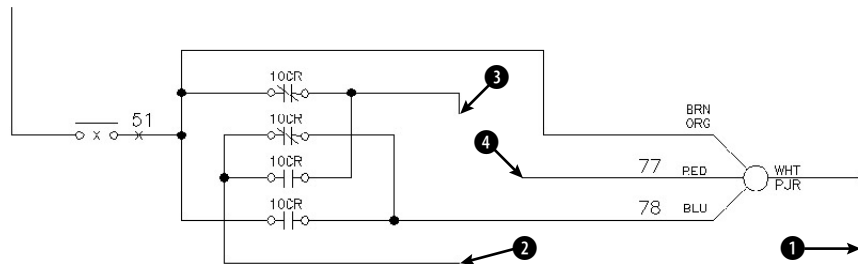

Figure 10-20: An electrical schematic.
2. Save the file as ab10-06.dwg in your AutoCAD Bible folder. It looks like Figure 10-20.
3.  Choose **Extend** on the Modify toolbar. At the Select objects or <select all>: prompt, pick the line at **1** in Figure 10-20 and then press Enter.
4. At the Select object to extend or shift-select to trim or [Fence/Crossing/Project/Edge/Undo]: prompt, pick the line at **2** in Figure 10-20. Press Enter to finish selecting objects. The command extends the line.
5. Repeat the EXTEND command. At the Select objects or <select all>: prompt, pick the lines at **3** and **4** in Figure 10-20 and then press Enter.
7. Pick lines ③ and ④ in Figure 10-20 again at the points shown. The lines extend to meet. Press Enter to end the command.